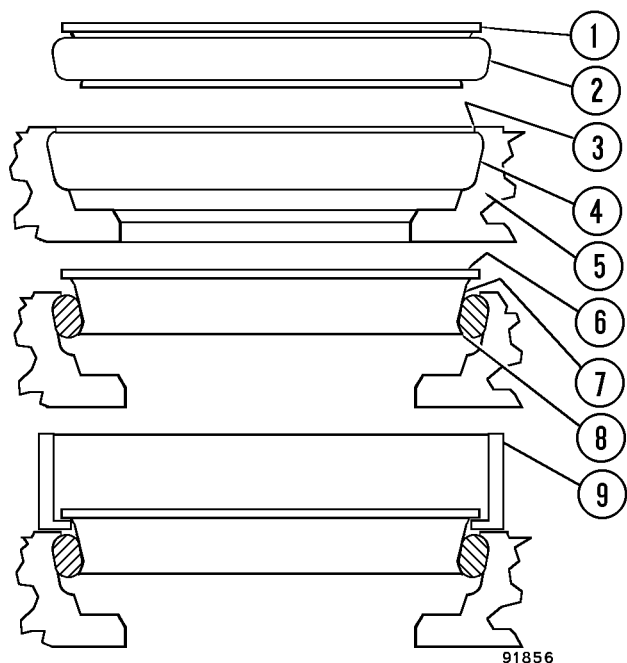

FIGURE 50-98. FLOATING RING SEAL TERMINOLOGY
2. Thoroughly clean the rubber O-rings with lint free cloth and isopropyl alcohol to remove the white powder-like coating and any other contaminants. Use lint free cloth and isopropyl alcohol to clean the seal contact surfaces on housing ramp (4, Figure 50-98) where the O-rings will be seated. Use lint free cloth and isopropyl alcohol to clean portion of brake housings, wheel hub, spindle and seal carriers that will contact the O-rings. Also clean the polished sealing surface on the seal rings. Allow surfaces to dry completely.